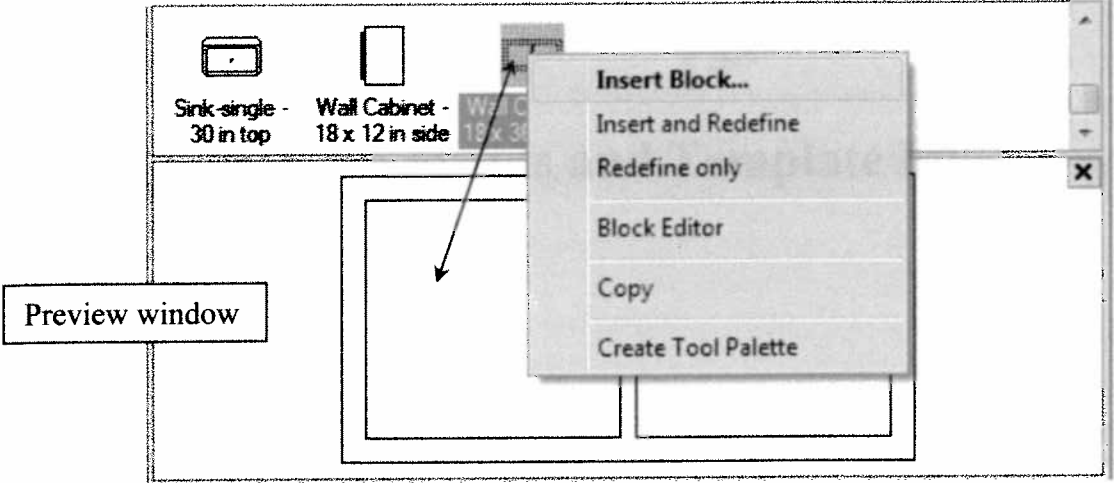

Figure 6-17c
- Insert the cabinet as follow (Figure 6-17c). (i) Click with the left button of the mouse on cabinet; this will highlight the cabinet icon and will display it in the preview window. (ii) Press the right button of the mouse. (iii) Click on the *Insert Block* option. The Insert block dialog box will appear on the screen. (iv) Follow the procedure to insert a block.